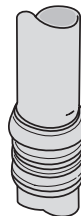

Fig.4c Pipe withdrawn by 12mm
**Step 3** – Withdraw pipe until mark is 12mm from socket (6mm for waste sizes) to provide required expansion gap (Fig.4c)